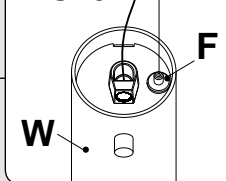
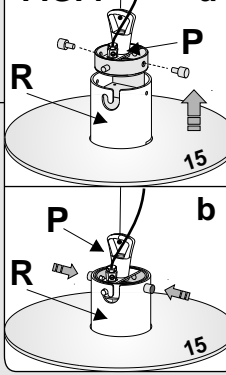

FIG. 5
FIG. 6
- Fig. 5 and 6** Insert the discs in the structure "R": first remove the protective film, then insert the discs by starting from no. 1 and interspaceing the ribbed glass rings "Q" between every disc, as shown in **fig. 5**. Carry out this operation for every disc by following the numbering and disc diameter scheme (see scheme **fig. 6**)